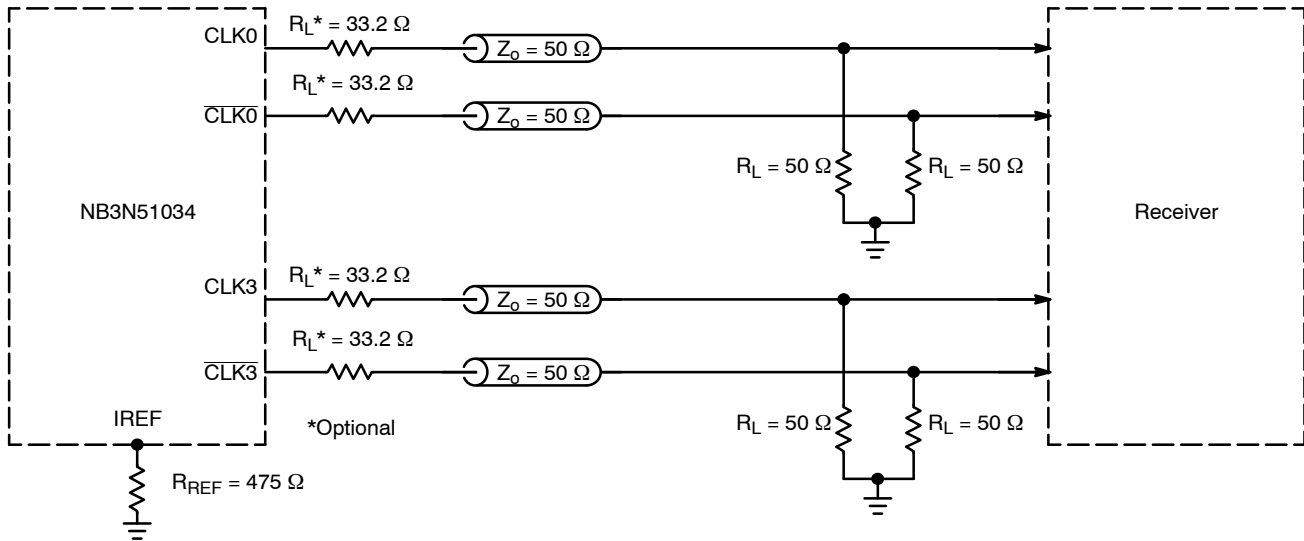
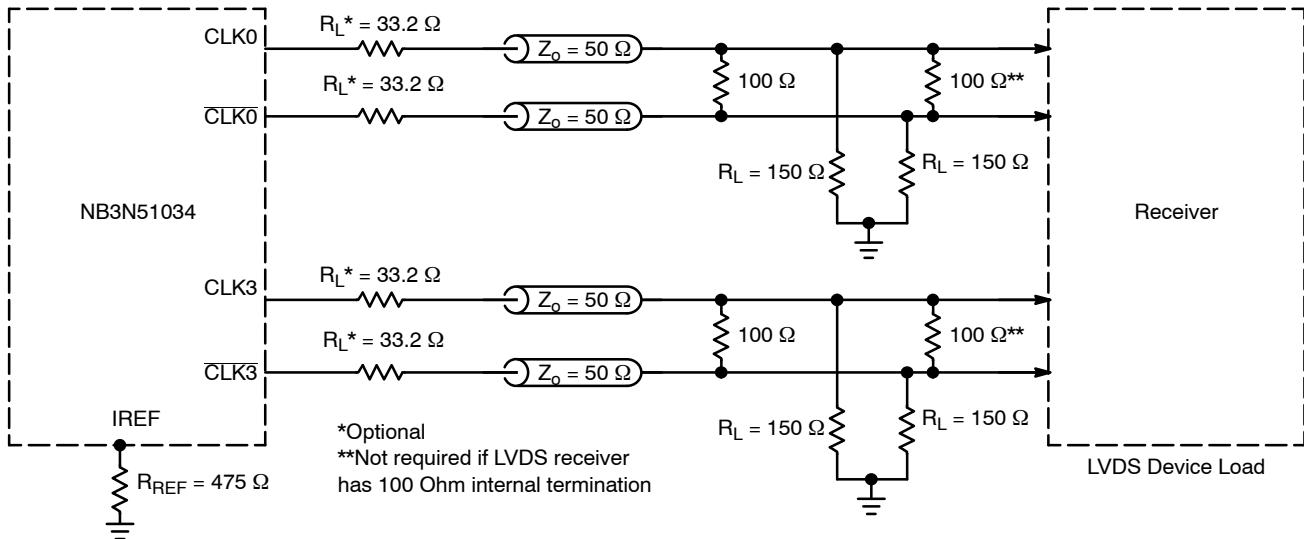

Figure 7. Typical Termination for HCSL Output Driver and Device Evaluation
Figure 8. Typical Termination for LVDS Device Load
- VDDXD and VDDODA power pins must be shorted to power supply voltage V_{DD} and GNDXD and GNDODA ground pins must be shorted to power supply ground GND. Measurement taken with outputs terminated with R_S = 33.2 Ω, R_L = 50 Ω, with test load capacitance of 2 pF and current biasing resistor set at 475 Ω. See Figure 7. Guaranteed by characterization.
12. VDDXD and VDDODA power pins must be shorted to power supply voltage V_{DD} and GNDXD and GNDODA ground pins must be shorted to power supply ground GND. Measurement taken from differential output on single-ended channel terminated with $R_S = 33.2 \Omega$, $R_L = 50 \Omega$, with test load capacitance of 2 pF and current biasing resistor set at 475 Ω . See Figure 7. Guaranteed by characterization.
19. VDDXD and VDDODA power pins must be shorted to power supply voltage V_{DD} and GNDXD and GNDODA ground pins must be shorted to power supply ground GND. Measurement taken from differential output on single-ended channel terminated with $R_S = 33.2 \Omega$, $R_L = 50 \Omega$, with test load capacitance of 2 pF and current biasing resistor set at 475 Ω . See Figure 7. This parameter is guaranteed by characterization. Not tested in production.
The outputs can be terminated to drive HCSL receiver (see Figure 7) or LVDS receiver (see Figure 8). HCSL output interface requires $49.9\ \Omega$ termination resistors to GND for generating the output levels. LVDS output interface may not